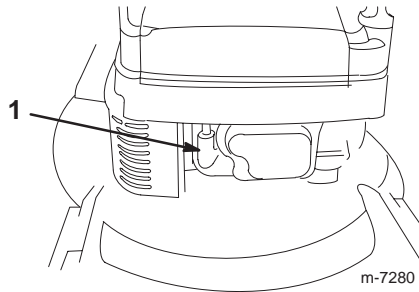

Figure 12
1. Connect the wire to the spark plug (Fig. 12).